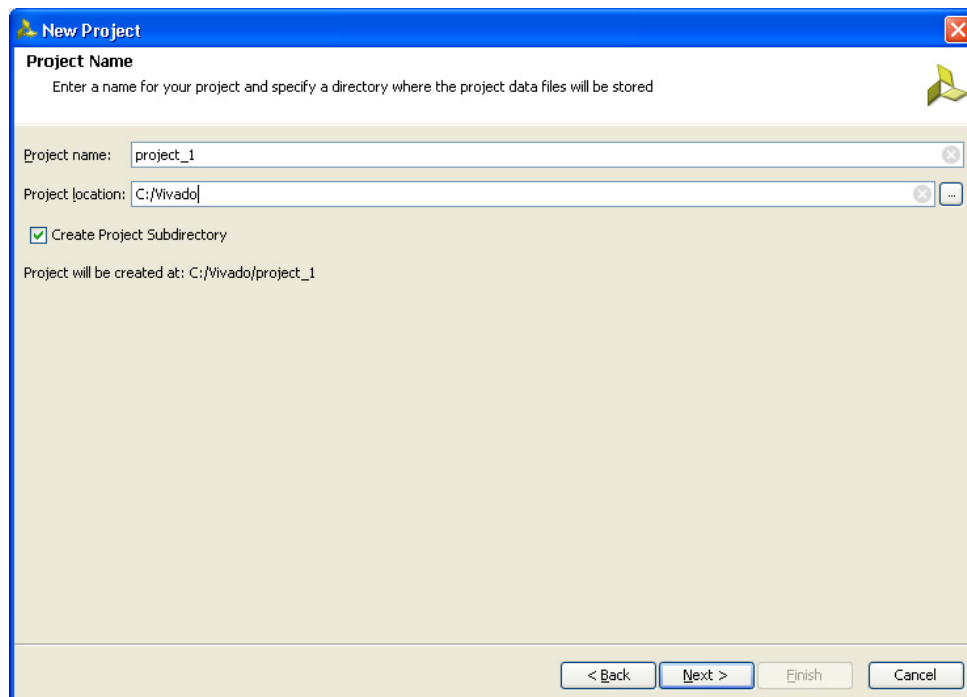

Figure 2-3: Project Name
3. Click **Next** to proceed to the Project Name page (Figure 2-3). Enter the Project Name and Project Location. Based on the details provided, the project is saved in the directory.